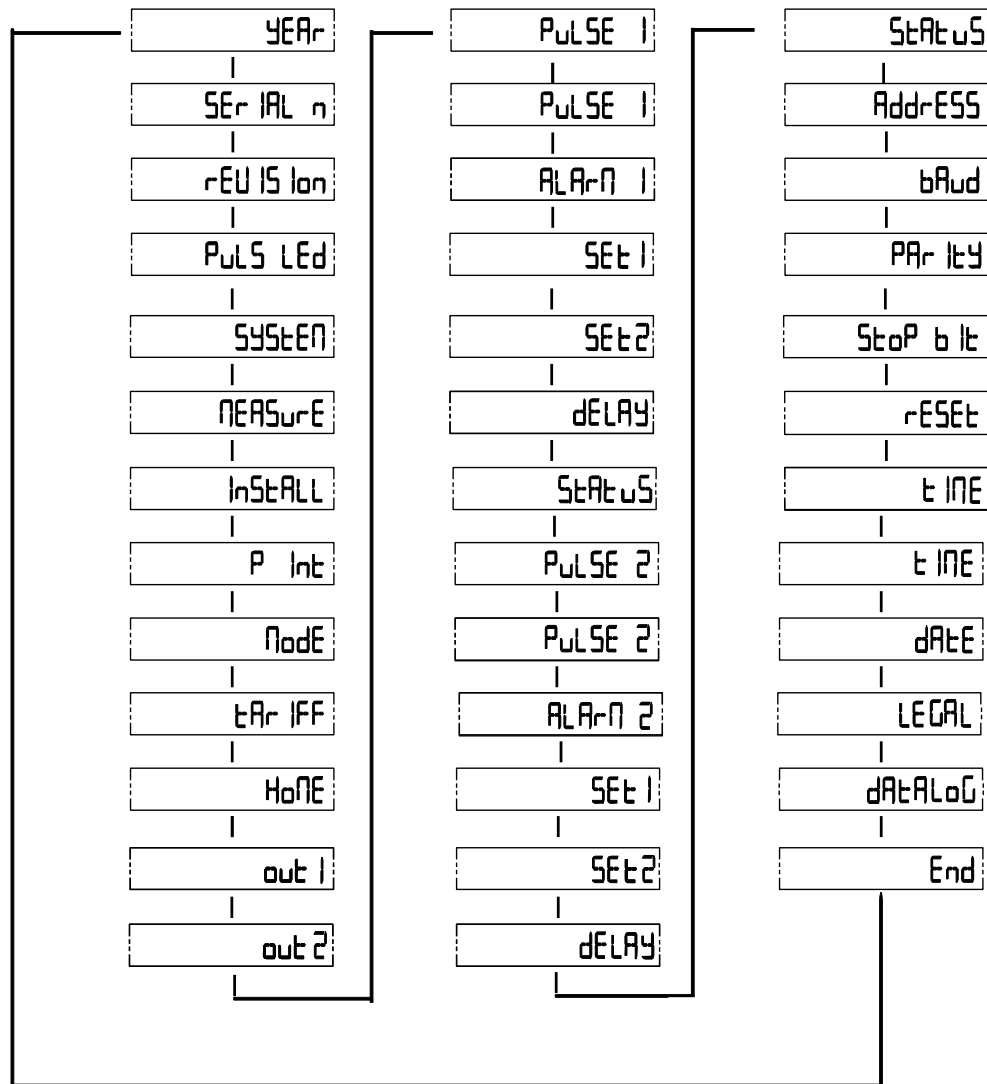

Fig. 17
*NOTE: to set output parameters, see Parameters menu (Fig. 17).*